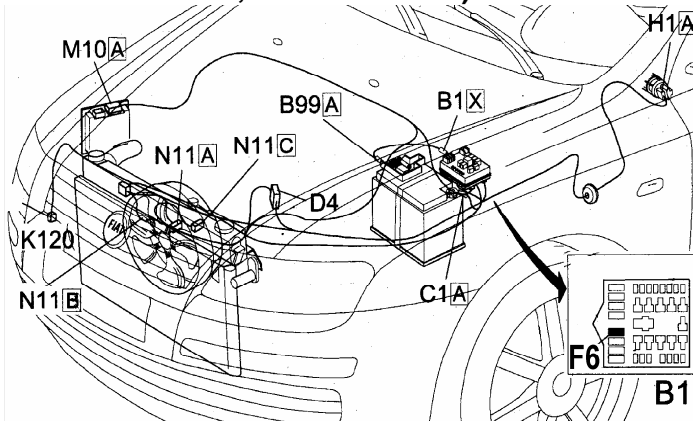

fig. 1
- ⇒ Remove the radiator fan protection maxi-fuse (F6 in figure 1) (50A for 1.8 16v and 1.9 JTD versions; 60A for 2.4 20v).